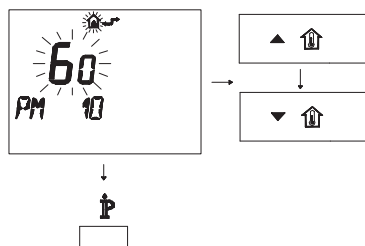

Fig. 8.29
- To modify the programmed SET, act on buttons **▲** or **▼** and wait for the number programmed to flash (Fig. 8.29).